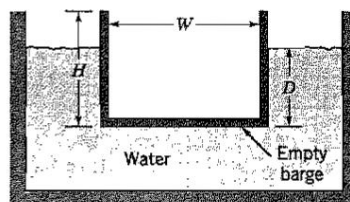

Figure P2.71
2.71 A rectangular barge of length L floats in water (density ρ_w) and when it is empty it is immersed to a depth D , as shown in Figure P2.71. Oil of density ρ_o is slowly poured into the barge until it is about to sink. Find the depth of oil in terms of H , D , ρ_w and ρ_o .